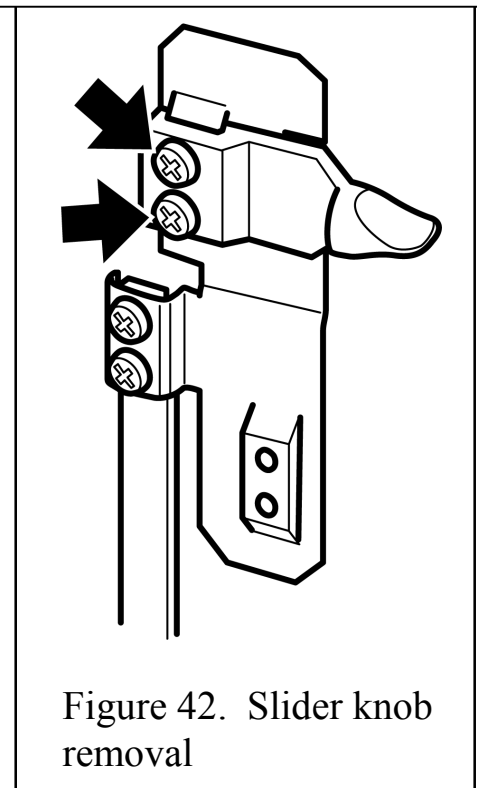

Figure 42. Slider knob removal
- Detach the control slide knob from the extension bracket by removing two screws (See figure 42).